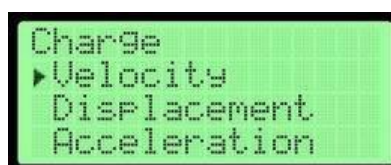

Figure 21 Selecting Parameter for Simulation
This operating mode of MSC-1015 enables the device to simulate one of three vibration parameters – Velocity, Acceleration or Displacement. Using Up (▲) and Down (▼) and confirming by Enter (E), user can select which of these parameters he or she wants to simulate (See Figure 21).